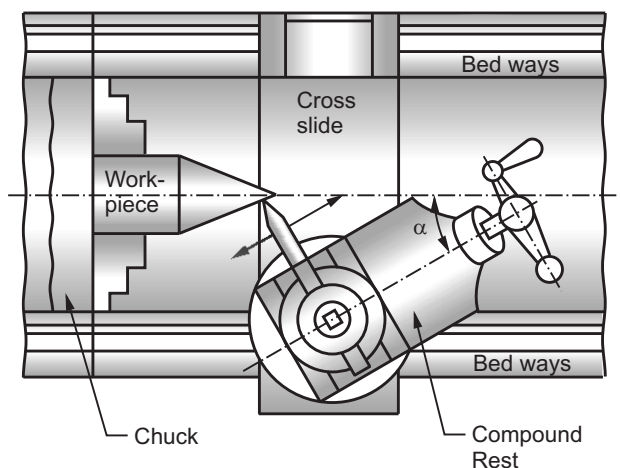

Fig. 5.19 : Turning taper by swivelling the compound rest
- A circular base is graduated in degrees, which can be swivelled and clamped at any required angle. Refer Fig. 5.19.